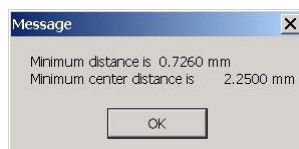

Figure 18: Measure distance report
3. A message window will report a center distance from 2.25mm (See Figure 18).